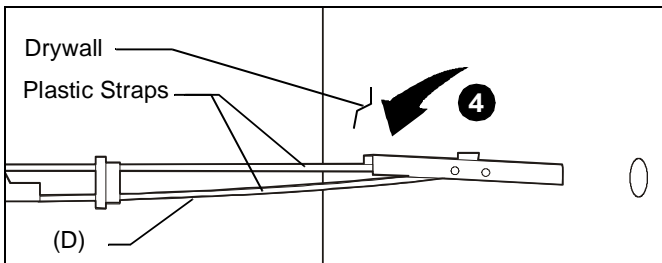

Figure 2
4. Hold metal channel on anchor (D) flat alongside plastic straps and slide channel through hole. (See Figure 2)